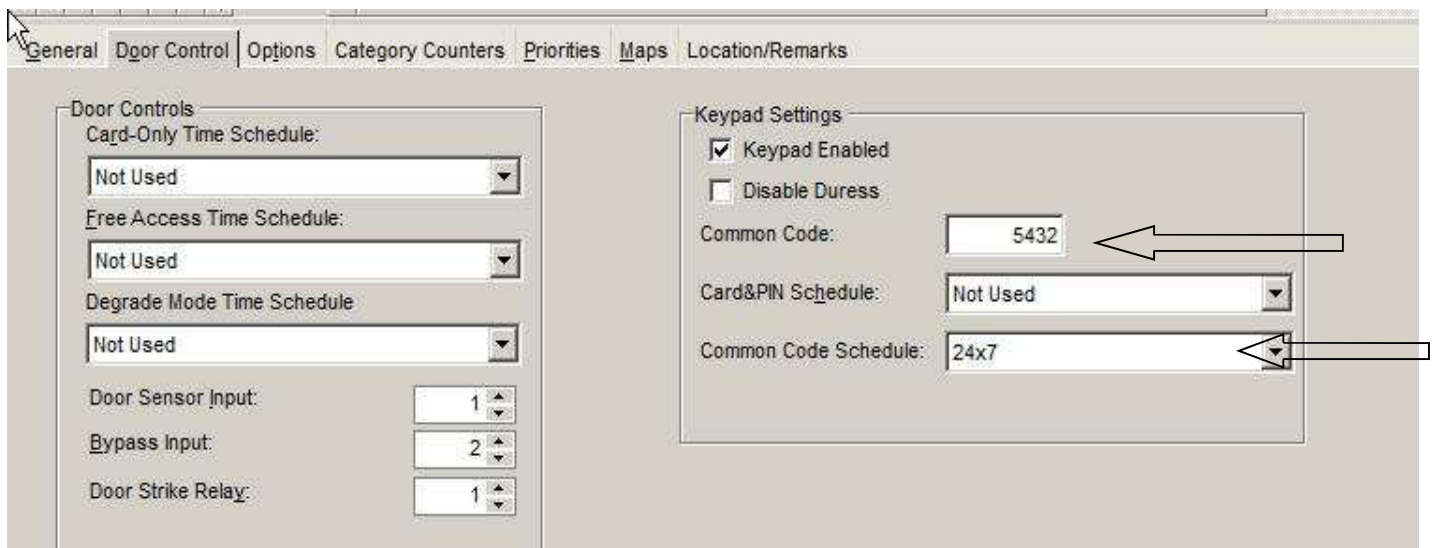

Figure 4.
1) The same four digit code is for all users. The “Keypad Enabled” must be selected. A four digit “Common Code” must be configure into “Common Code”. This code must be four digits and must not begin with a leading zero. A “Common Code Schedule” must be programmed in. Refer to figure 4 for configuration of “Keypad Settings”.